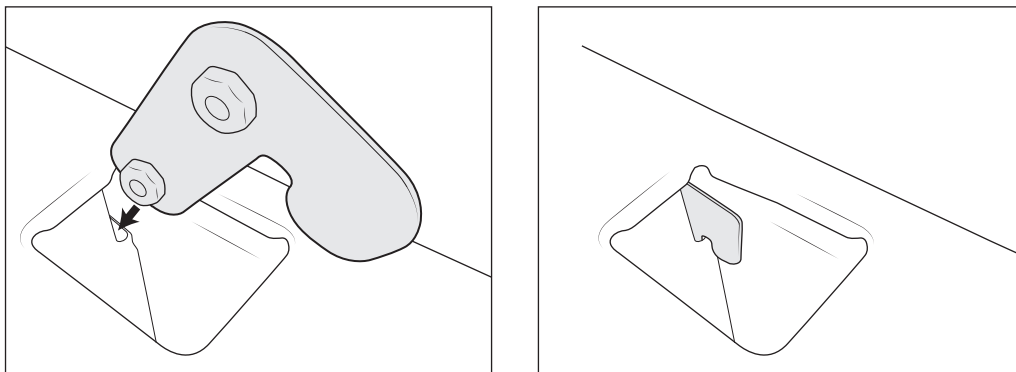

Figure 6
- B. Drop the J Bolt Nut Plates into stake pockets at the front of each bedside (fig. 6).